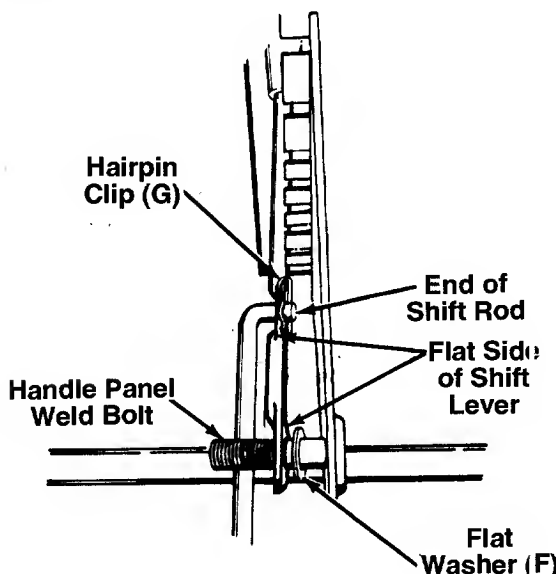

FIGURE 11.
15. Thread shift knob (Z) onto the shift lever (R).
16. Place one flat washer (F) over the weld bolt on the handle panel. Place shift lever (R) through slot in handle panel, with the flat side of shift lever against bracket on handle panel. Place the hole in the end of the shift lever over the handle panel weld bolt. See figure 11.
17. Place the shift lever in the fastest forward position (5th speed). Push the shift rod all the way forward (assembled to the ferrule in step 3). Thread the shift rod in or out of the ferrule as necessary until the end of the rod lines up with the hole in the shift lever. Insert end of rod into hole in shift lever and secure with hairpin clip (G). See figure 11.
To adjust the shift lever, place the shift lever in the fastest forward position (5th speed). Remove the hair-pin clip which secures the shift rod to the shift lever (refer to figure 11), and remove the rod from the lever. Push the shift rod all the way forward. Thread the shift rod in or out of the ferrule one or two turns as necessary, until the end of the rod lines up with the hole in the shift lever. Insert end of rod into hole in shift lever and secure with hairpin clip. Recheck the adjustment.